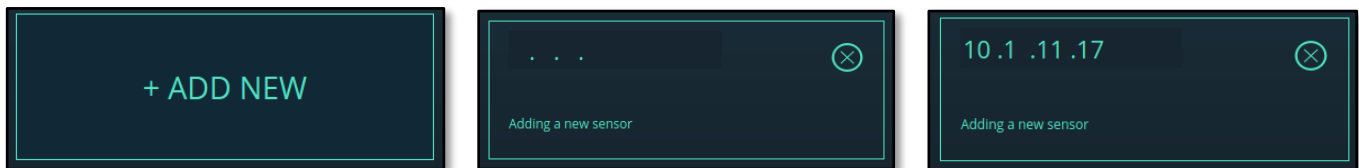

Figure 23. Dashboard Tab: Add New Sensor Sequence
2. Click the **+ADD NEW** tile. That tile transitions to include four numeric fields separated by periods, and a blinking cursor prompts the user to type. See Figure 23. Dashboard Tab: Add New Sensor Sequence.